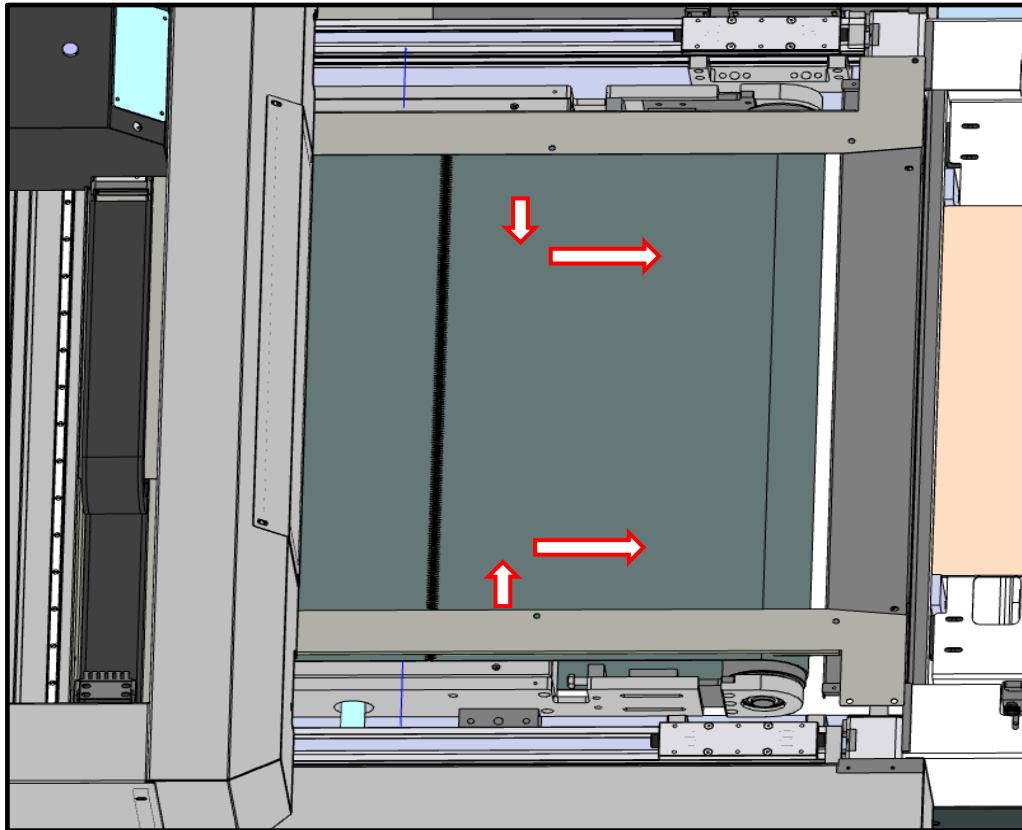

Figure 8-4
- Re-tighten and refasten the two protection strips previously removed Figure 8-4, Figure 5-13 and Figure 5-14.